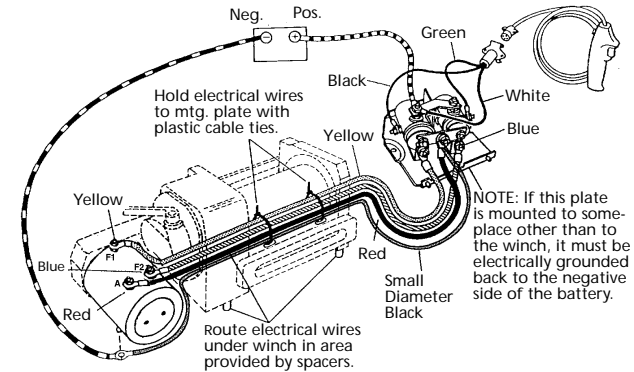

Figure 7
2. Remove the motor cover. Check motor terminals against wiring diagram for identification (see fig. 7)